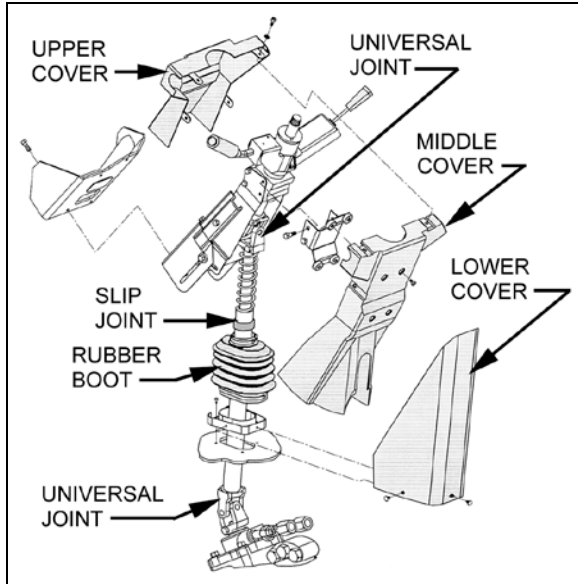

FIGURE 8: STEERING COLUMN COVERS 14040
1. From the front driver's compartment area, remove the three plastic fasteners on steering column lower cover. Remove the lower cover (Fig. 8).
2. Remove the 2 clockspring mounting screws and then remove the clockspring. You will have to disconnect the clockspring harness connector located lower along the steering wheel column. If necessary, remove the steering column covers (Fig. 8).